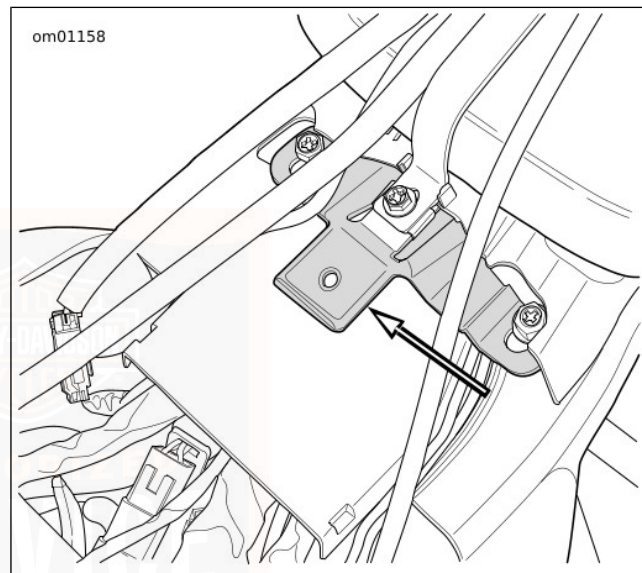

Figure 79. Seat Tongue
8. See Figure 79. While pushing seat forward, raise rear of seat until bracket clears top of Tour-Pak (if equipped). Push seat rearward slightly to free tongue from slot in seat.
3. See Figure 79. While raising rear of seat approximately 76.2 mm (3 in), use other hand to firmly push downward and rearward until tongue engages slot in seat.